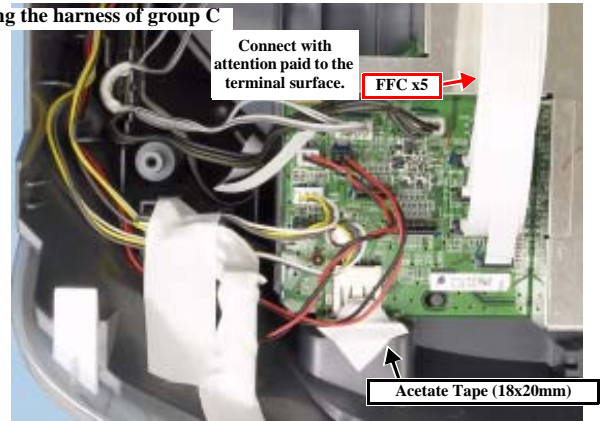

Figure 4-19. Connection of Group C (FFCs)
7. Connect the FFCs of group C to the connectors. (Fig. 4-19)
8. Stick acetate tape on the USB terminal (in the front). (Fig. 4-19)